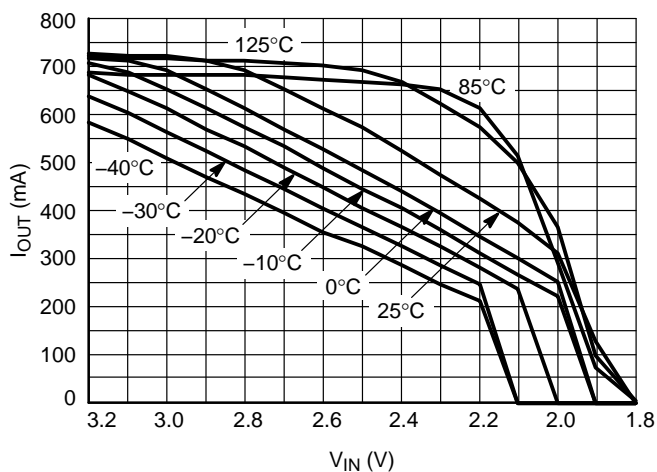

Figure 21. Output Current Capability for the 1.8 V Version
24. For output current capability for  $T_A < 0^\circ\text{C}$ , please refer to Figure 21.